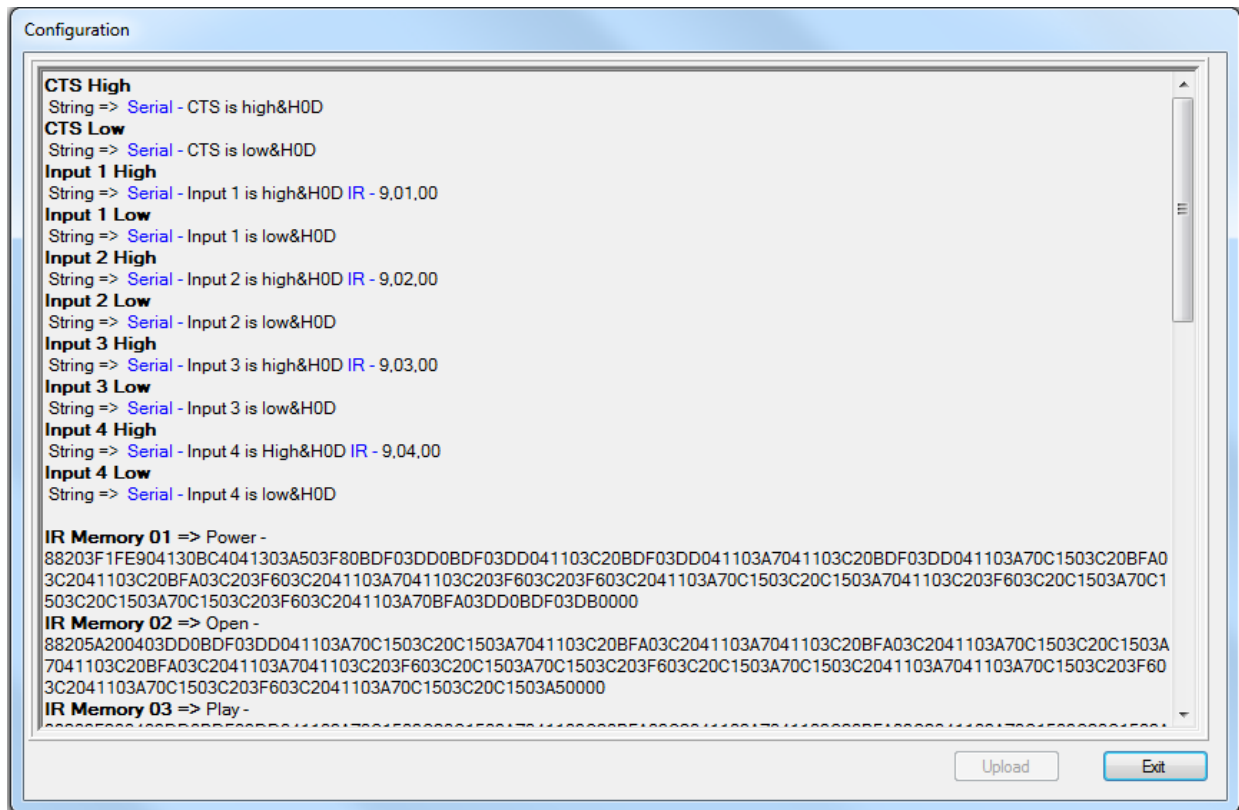

Figure 3 – Sample Configuration Display
- Click the **Show Config** button to display the current configuration present in the GUI. Figure 3 below shows an example of a unit's configuration. All INPUT Strings and IR Codes are available